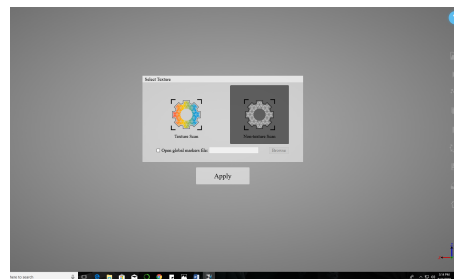

Figure 11: Select "Non-Texture Scan"
8. Select "Non-Texture Scan" (Figure 11). Finish by selecting "Apply".